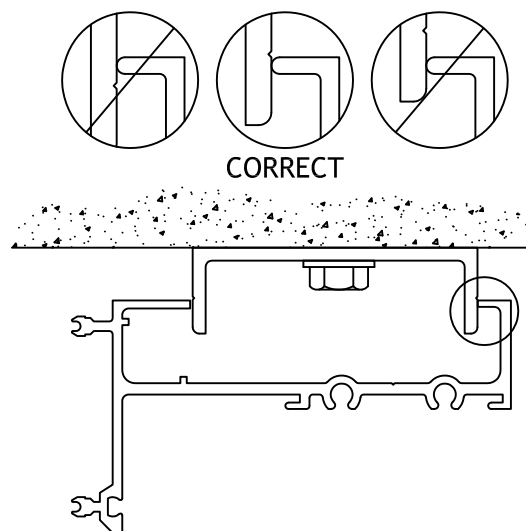

Figure 10
- 2.3 Seal ends of horizontal framing members before assembly. SEE FIGURE 10, Page 11.
NOTE: For optimal performance of Head Anchor, Die Lines must be visible on the Anchor at the top of the Frame. SEE FIGURE 10 below